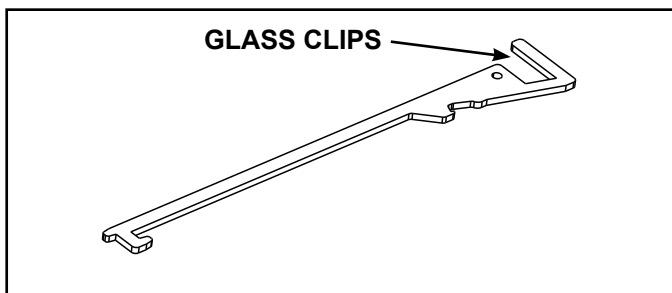

Figure 9.1 Multi-Purpose Tool
- To release glass assembly, use the supplied multi-purpose tool (Figure 9.1) to pull the two bottom spring-loaded latches forward and allow them to retract away from the glass assembly. Tilt the bottom of the glass assembly outward until the top latches disengage.